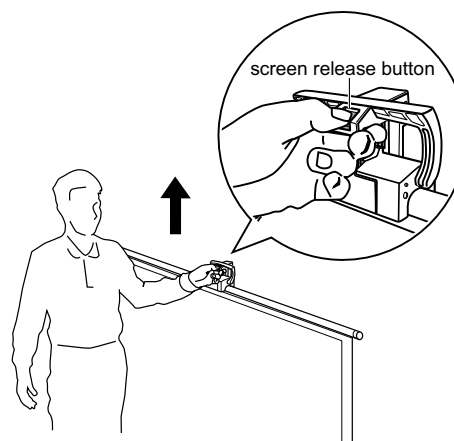

Figure 5
7. Raise the screen to position at desired height. Press the screen release button and pull up the hook to desired height. You can place in position at any height (Figure 5).